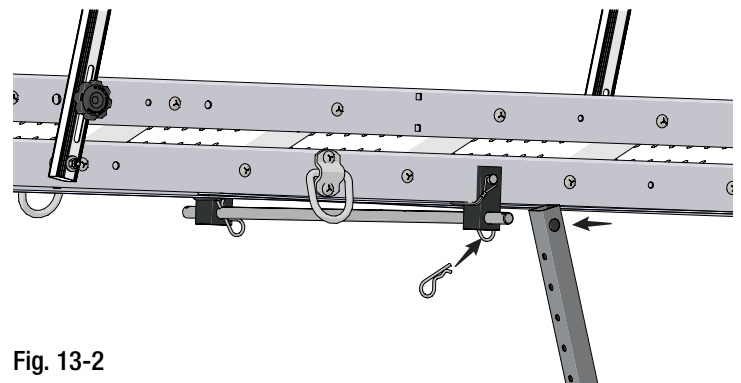

Fig. 13-2
- Slide the inner stabilizer post over the stabilizer rod as shown right in Fig. 13-2.